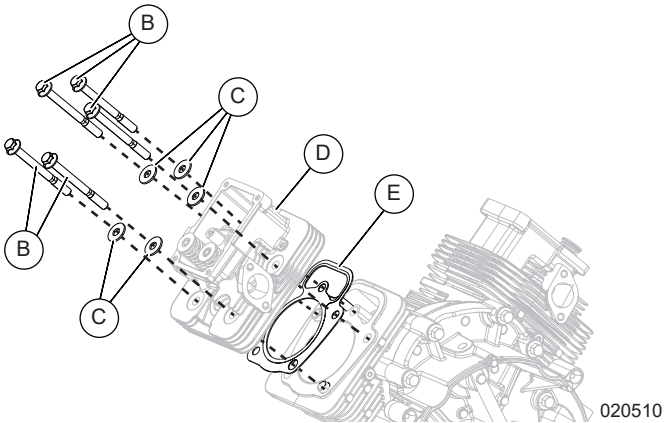

Figure 12-4. Install Cylinder Head onto Crankcase
2. See Figure 12-4. Install cylinder head gasket (E) on engine long block. Install cylinder head (D) on